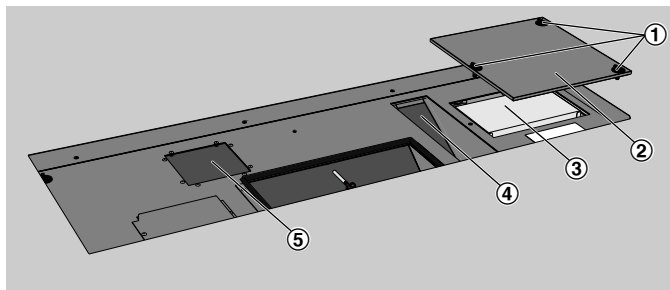

Fig. 24: Changing filters in a right side construction (example)
- Remove the cover (Fig. 24/2) of the outdoor air filter chamber. To do so, loosen the fasteners (Fig. 24/1), then remove the cover. Pull the Mini Pleat filter (Fig. 24/3) out of the filter chamber.
**Extract air / secondary air filter:** Remove the flat filter (Fig. 24/4) complete with its frame from the unit.
**Bypass filter:** Remove the flat filter (Fig. 24/5).
- Put the flat filters (Fig. 24/4 and 5) and the Mini Pleat filter (Fig. 24/3) back into the filter chambers.
Replace the filter chamber cover (Fig. 24/2) with the fasteners (Fig. 24/1).